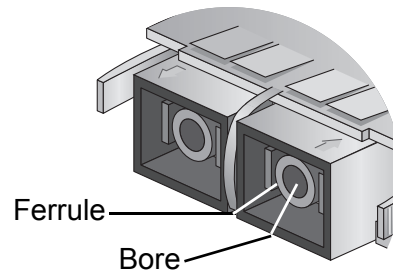

Figure 17. Optical Bore and Ferrule of GBIC Module
- The most common source of contaminants in the optical bore is debris picked up on the ferrules of the optical connectors, as shown in Figure 17. Use an alcohol swab or wipe to clean the